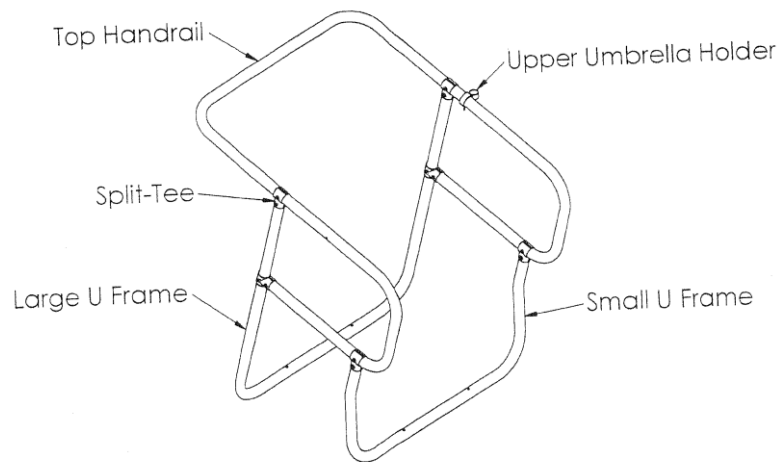

Figure 3
**Step 2:** Assemble the upper frame assembly as shown in figure 3. Use split-tees, 3/8"x2 3/4" carriage bolts, 3/8" lock washer, 3/8" flat washer and 3/8" acorn nuts. Slide the upper umbrella holder over the right side of the upper handrail before bolting the frame together. Hold the upper umbrella holder in place with one 5/16"x 1/2" Hex head bolt.